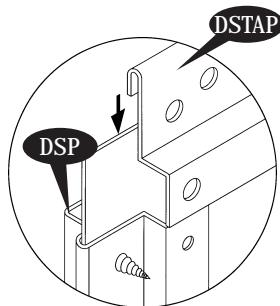

Fig.1
**4.** Assemble the Door panel strip top (DSTAP) with Door panel. Make sure the Door panel top edge to be inserted into the (DSTAP). See fig. 1.